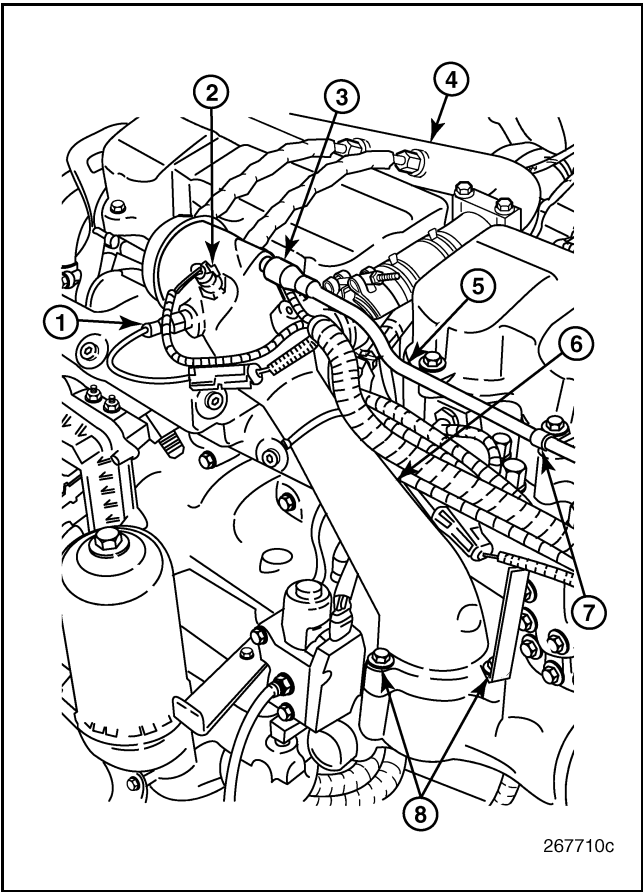

Figure 507 — EGR Gas Mixer Tube
5. Remove the capscrews attaching the mixer tube to the inlet manifold (Figure 507) and remove the tube.
8. Connect the electrical leads to the CMCAC outlet pressure and temperature sensors (Figure 507).